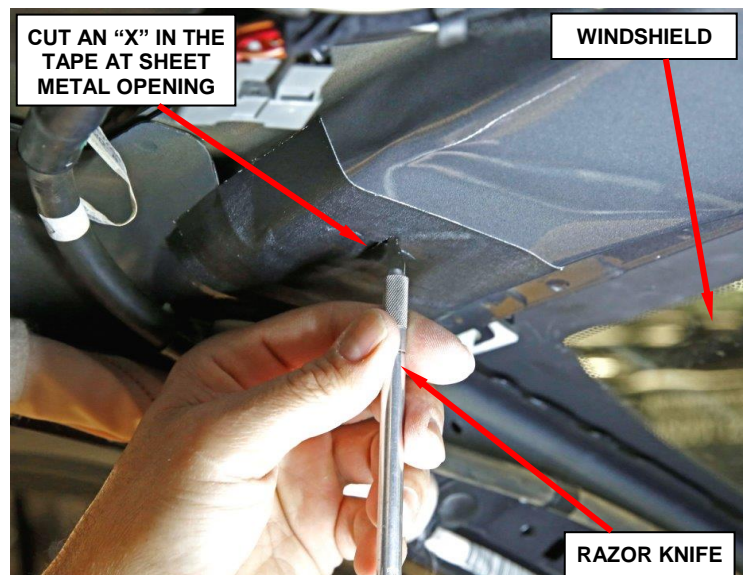

Figure 22 – Cut an “X” in the Tape (left side shown)
- 48. Using a razor knife, cut an “X” in the tape where it spans the sheet metal opening for the sun visor base (Figure 22).